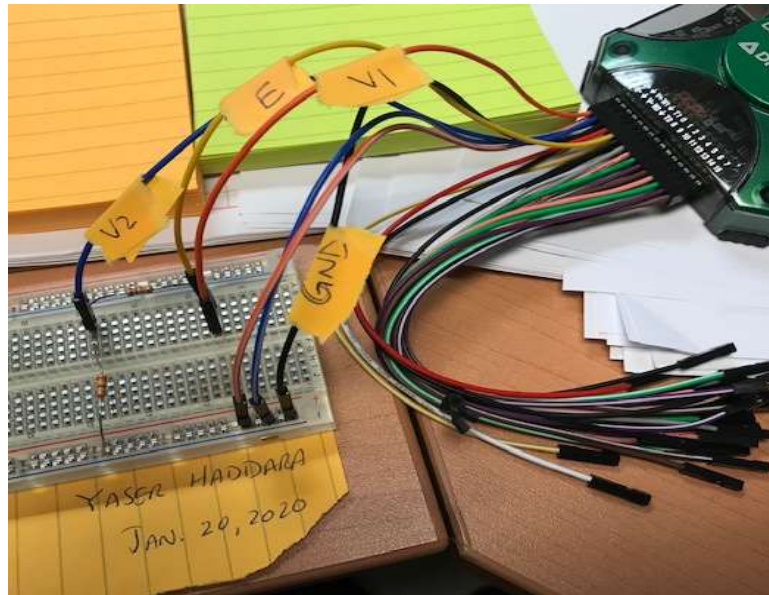

Figure 2. Circuit setup.
2. Take a photograph of your setup. Ensure that your circuit setup is neat and easy to understand from the photo. Include in the photo a label with you name and the date the photo was taken. A sample satisfactory photograph is shown in Figure 2.